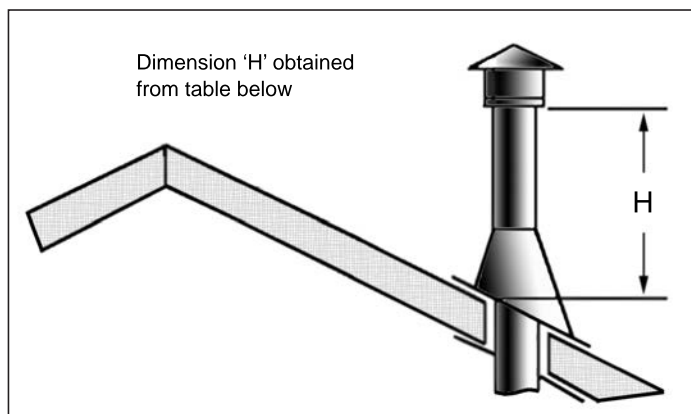

Figure 54: Height of Vertical Termination; Reference Table 7
- Step 8.** Continue to add pipe sections until the height of the vent cap meets the minimum code requirements. Refer to Figure 54 and Table 7. Note that for steep roof pitches, the vent height must be increased. In high wind conditions, nearby trees, adjoining roof lines, steep pitched roofs, and other similar factors can result in poor draft, or down drafting. In these cases, increasing the vent height may solve the problem.
Table 7: Minimum 'H' for Figure 54.